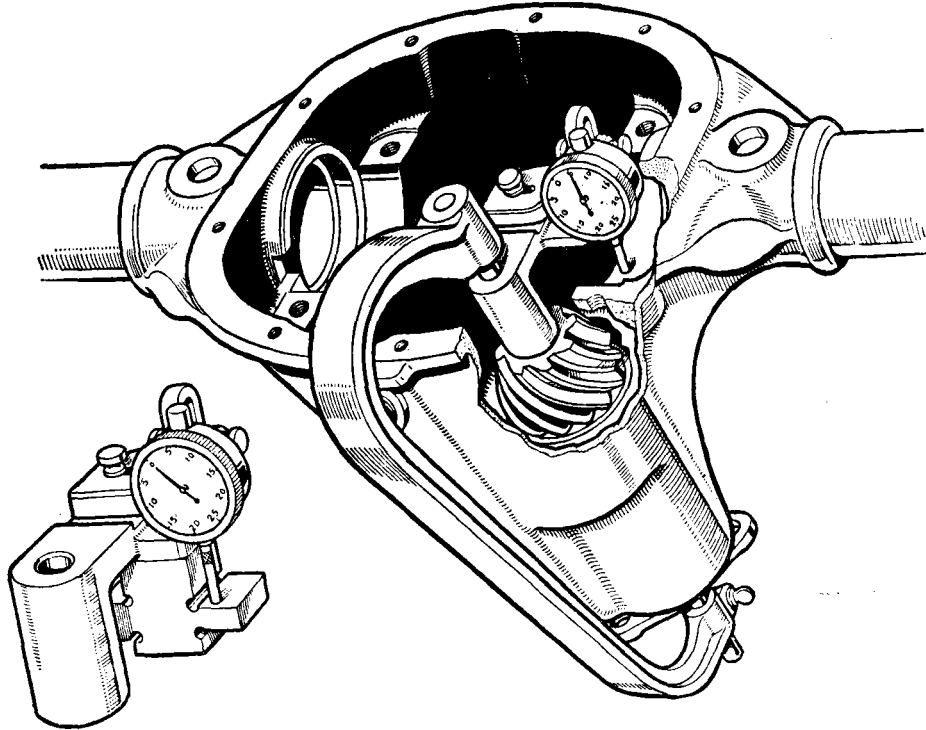

Fig. 16. Checking pinion cone setting.
- (5) Fit pinion outer bearing cone, companion flange, washer and nut only, omitting the oil slinger and oil seal assembly, and tighten the nut.
- (6) Check the pinion cone setting distance by means of the gauge, Tool No. SL.3, as shown in Fig. 16. The procedure for using the gauge is :—